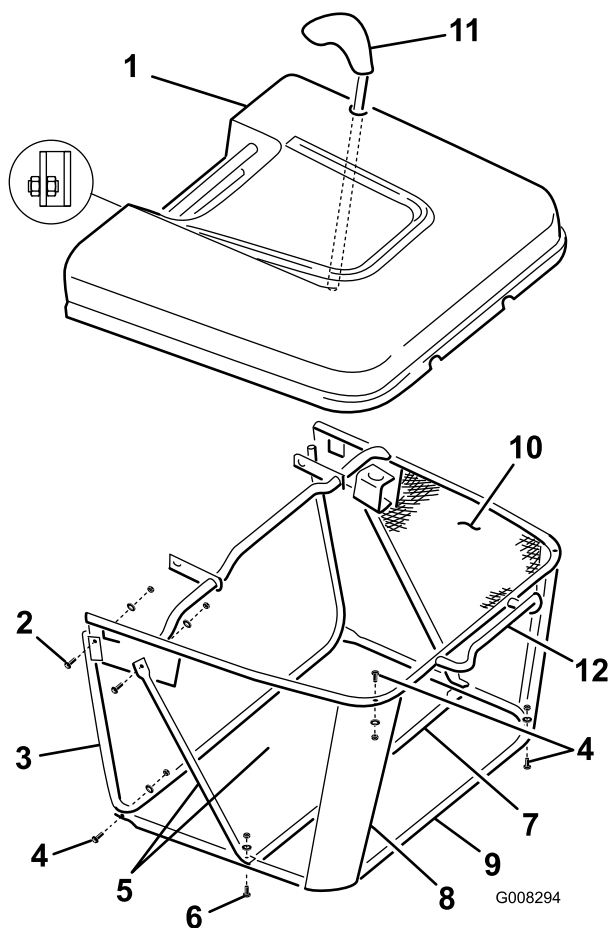

Figure 4
2. Align the upper holes with the holes on the upper tube. Loosely fasten the tubes together with the upper bolts (Figure 4).
4. Tighten the upper bolts (Figure 4).
5. Stretch the bag and put it over the rear handle (Figure 4).
6. Insert the bottom tube into the bag (Figure 4).
8. Fasten the corner supports to the top and bottom tubes using the M5 bolts and nuts from under the collector cover (Figure 4).
9. Fasten the bottom tube to the front tube with M5 bolts and nuts (Figure 4).
11. Place the lower brace on the outside of the bag and secure it to the left and right supports with the screws (Figure 4).
18. Insert the dumping lever through the hole of the cover and secure it with the M5 x 12 screw and M5 nut (inside the tube) (Figure 4).